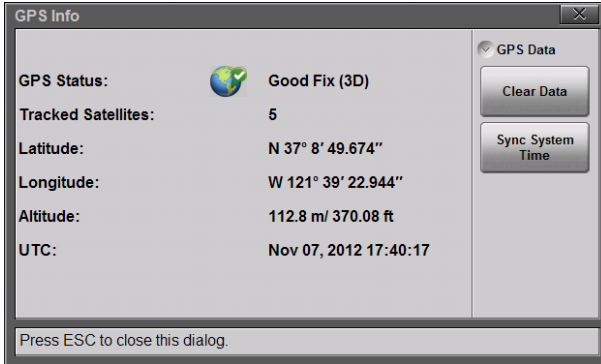

Figure 2-8. GPS Info
- 3 GPS icon. Press to view the current GPS information (Figure 2-8) obtained from an external USB-based GPS module. The icon indicates the status of the GPS module and location fix. After capturing a good fix, location data are saved with measurements (Figure 2-9) and screen captures.
- 4 Touchscreen Lock icon. The Lock icon is displayed when the touchscreen is locked (**Touch (2) > Lock**). When locked, the touchscreen will not register user input. A user may lock the screen in order to use the instrument exclusively with a USB mouse or with the Arrow Cursor control.